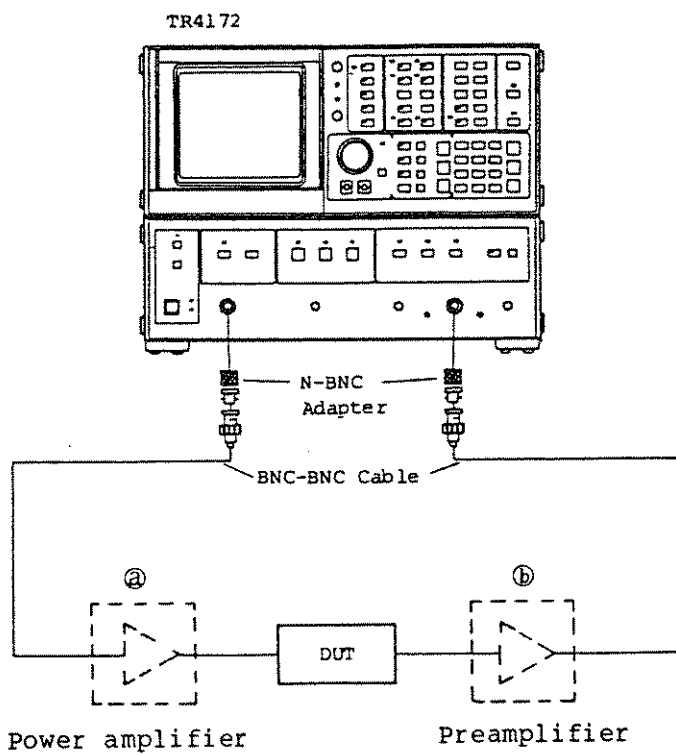

Fig. 5-3 Connecting filter and TR4172 via preamplifier
The preamplifier (option 02) is equivalent to ① in Figure 5-3. If the T.G. output level is too high, it can be attenuated by up to 50 dB at 10 dB steps as follows: